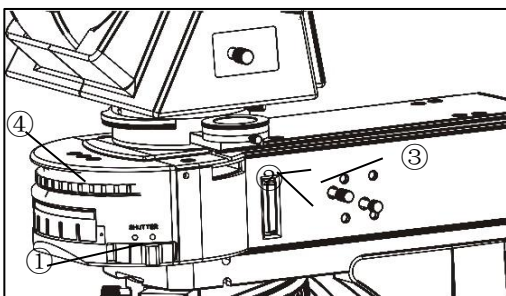

Figure 20
**3-18 Use optical path selection (Figure 20)**
According to the requirements of the optical path to be observed, rotate the spectroscopy assembly chamber (Figure 20) to the corresponding position.
**3-19 Centering the field diaphragm (Figure 20, 21)**
Adjust the field of view light knob of the reflector (③ in Figure 20) until the light-light image is external to the field of view to shield unnecessary light.